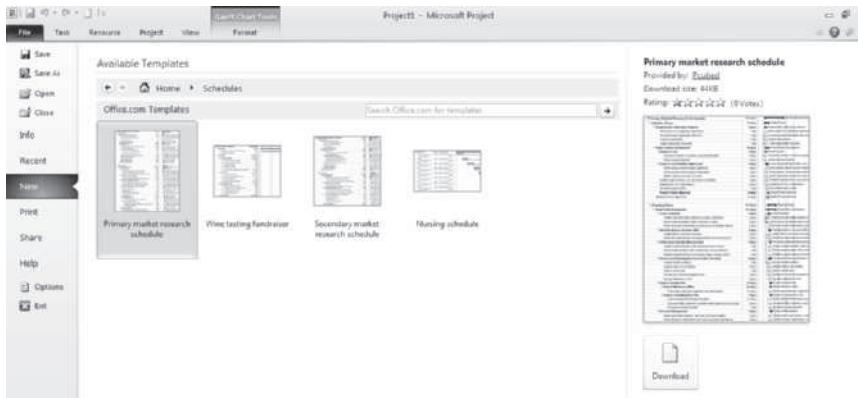

FIGURE A-65 Schedules templates from Office.com
2. *Access templates from Office.com.* Click the **Schedules** icon in the Office.com Templates section at the bottom of the screen, as shown in Figure A-65. A list of templates available at the time appears. Experiment with finding and using various template files in Project 2010.